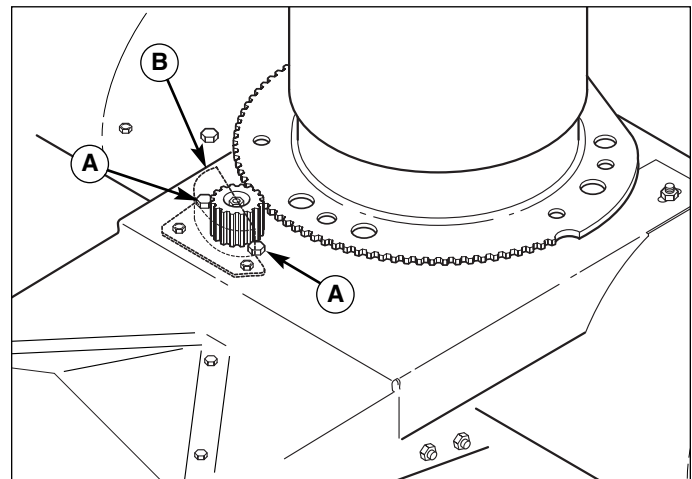

Figure 6. Discharge Chute Motor Gear Adjustment
1. Remove the plastic cover (B, Figure 6) and loosen the three taptite screws (A) securing the electric spout rotator motor.
2. Adjust the motor so that it meshes with the discharge chute ring gear and tighten the adjustment screws (A).